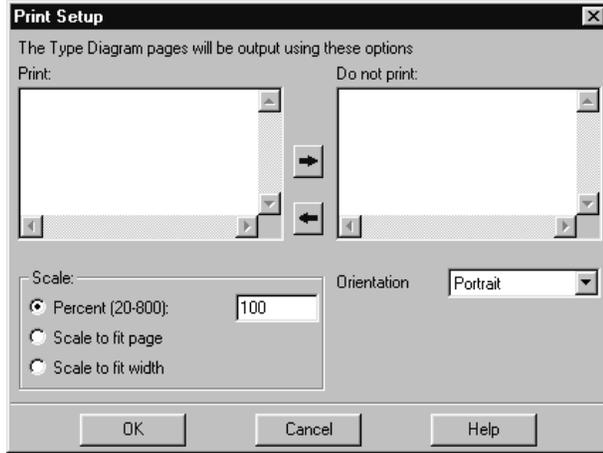

Figure 86: A viewer Print Setup dialog
- *Print Setup* dialog in tools not mentioned above and, when applicable, in the Organizer, see Figure 86.